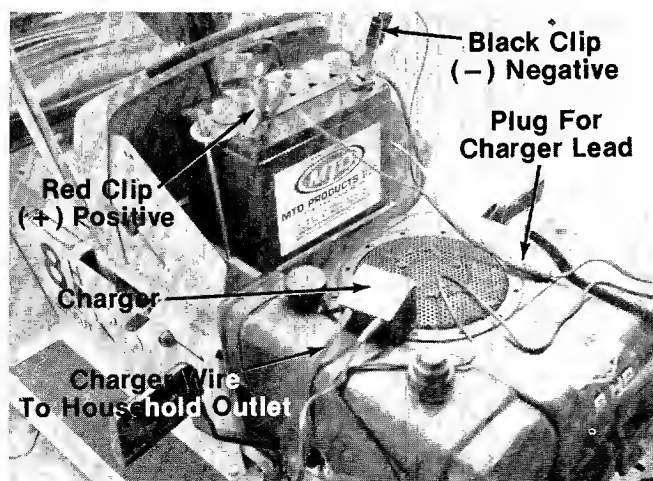

FIGURE 9.
- 5. Charge the battery at a **MAXIMUM RATE OF 5 AMPS.** until the specific gravity reads 1.265. See figure 9. Use a hydrometer to check the specific gravity.
- F. The lawn tractor is shipped with a battery charger and charger lead. When ever charging is required, attach the red clip to the positive (+) terminal and the black clip to the negative (–) terminal. Then plug charger lead into charger. Plug charger into standard household outlet. See figure 9.